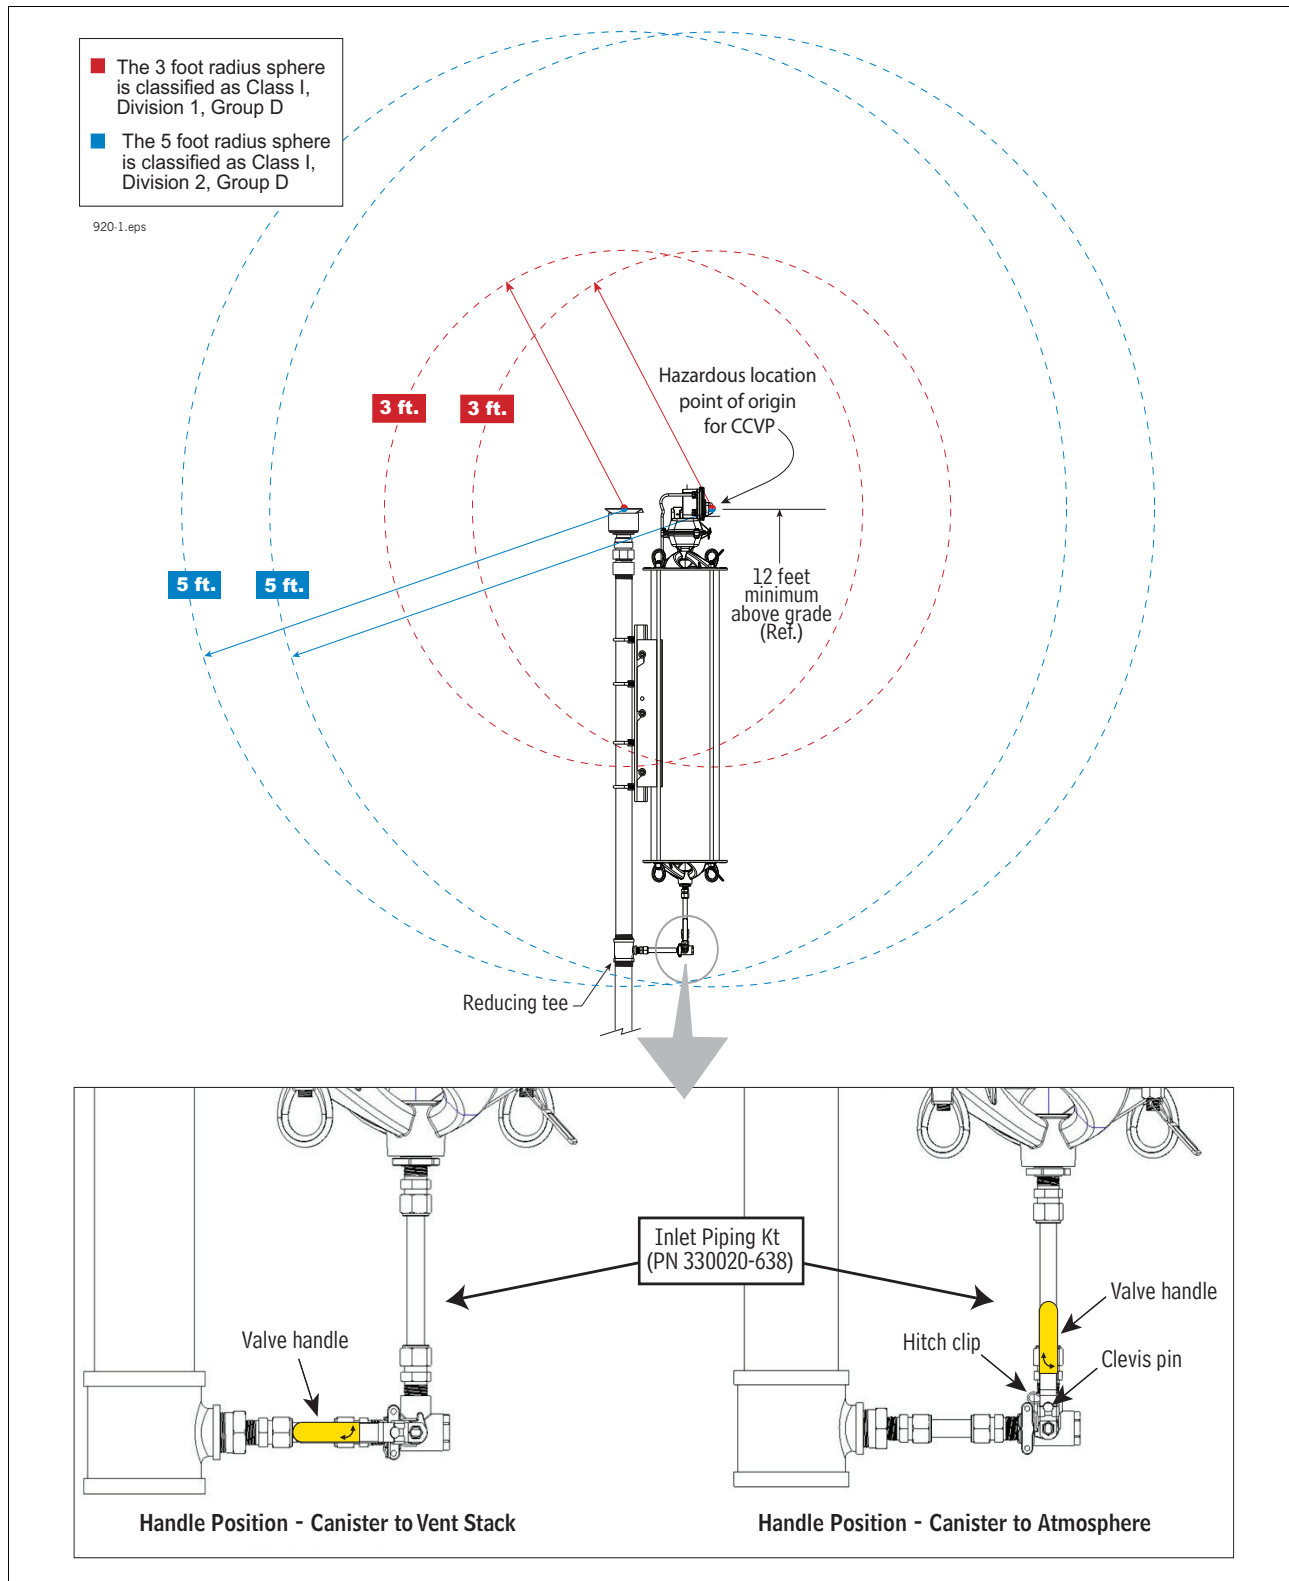

Figure 3. Inlet plumbing detail and classified area definition
- The canister can only be installed in systems with a vapor recovery vent stack fitted with a UL Listed pressure/vacuum (P/V) valve that operates between -8 and +6 inches water column. The outlet of the carbon canister vapor valve has the same classified area requirements as the P/V valve per figure 3 and is subject to approval by the local authority having jurisdiction.
8. Figure 3 shows important Class I Div 1, Group D and Class I Div 2, Group D radius spheres and operability test valve handle positions of the installed canister.
15. Connect all lower fittings, valve and tubing between the vent pipe and the lower manifold on the CCVP (see Figure 3).
16. Confirm ball valve is in the open, canister to vent stack position (per Figure 3), then insert the clevis pin and secure with the hitch pin.
- The Hazardous Location Area Classification shown for the CCVP in Figure 3 must be considered from the point of origin for all offset mountings.